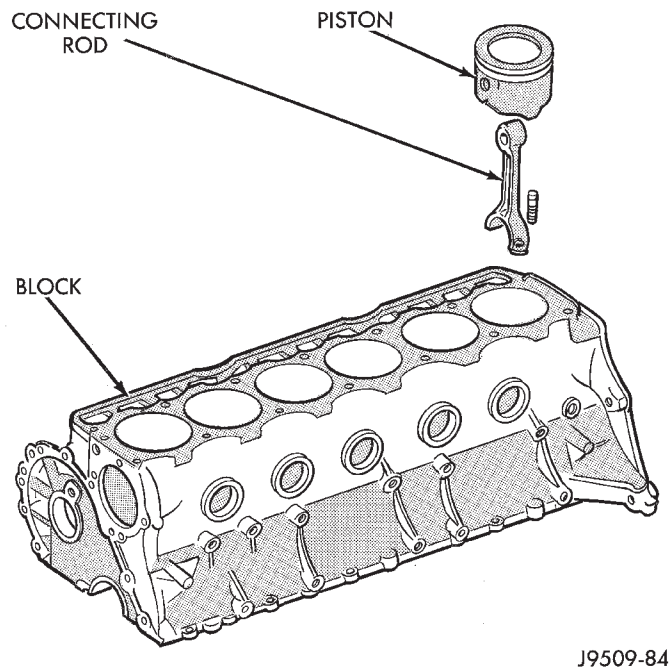

Fig. 53 Removal of Connecting Rod and Piston Assembly
- (11) Have an assistant push the piston and connecting rod assemblies up and through the top of the cylinder bores (Fig. 53).